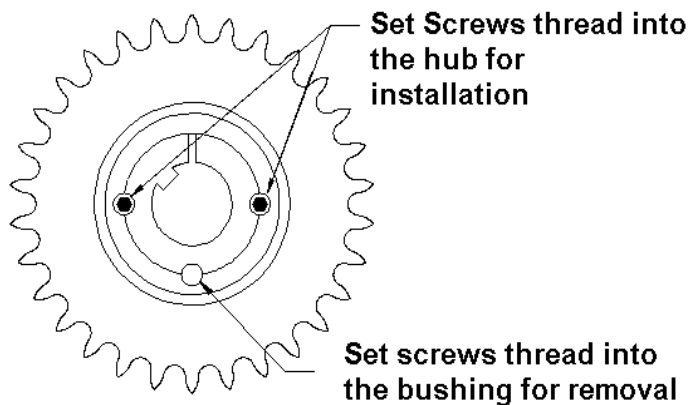

Figure 10
- b. **Loosening taper lock hub bushings from steel sprockets:** (See Figure 10) Remove the set screws and insert one into the hole which is threaded in the bushing only, using it as a jack screw. This will disengage the bushing for removal.
- e. Loosen the set screws that secure the end roll to the drive shaft. (See Figure 10)